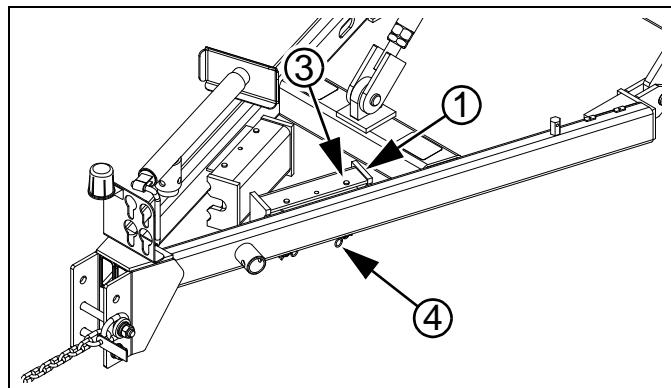
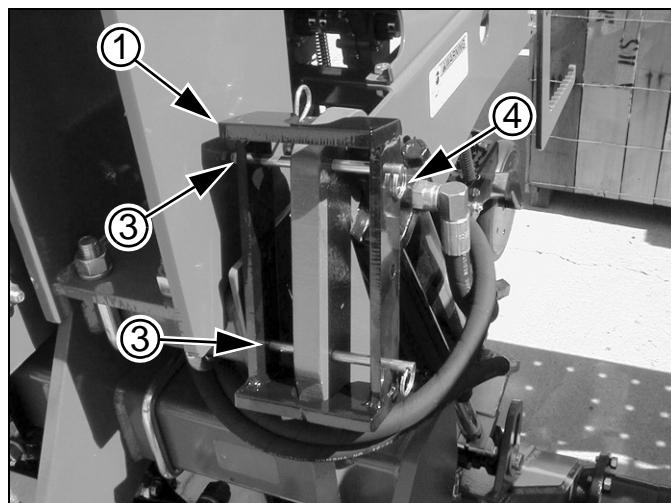
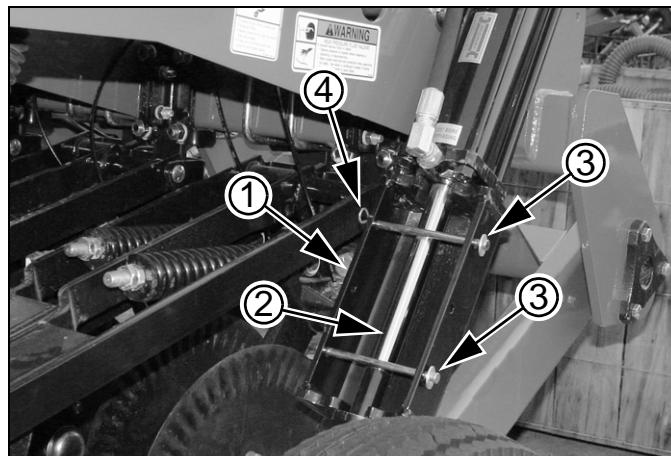

Figure 14: 2012+
Figure 15: 2011-
Figure 16
*Refer to Figure 14 or Figure 15, and Figure 16*
**Refer to Figure 16 page 20 and Figure 15 on page 20**